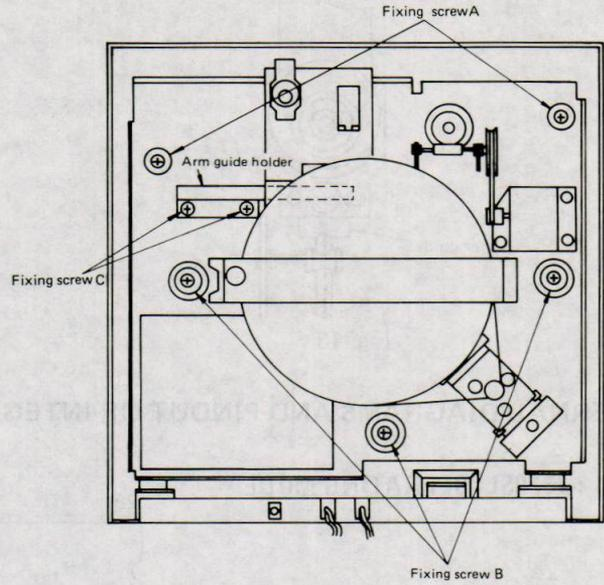

Fig. 10
- 4) Remove five fixing screws (A) and (B) of player unit shown in Fig. 10. The player unit can then be removed from the cabinet body.
- 3) Remove dial thread from the pulley and remove fixing screws (C) in Fig. 10.